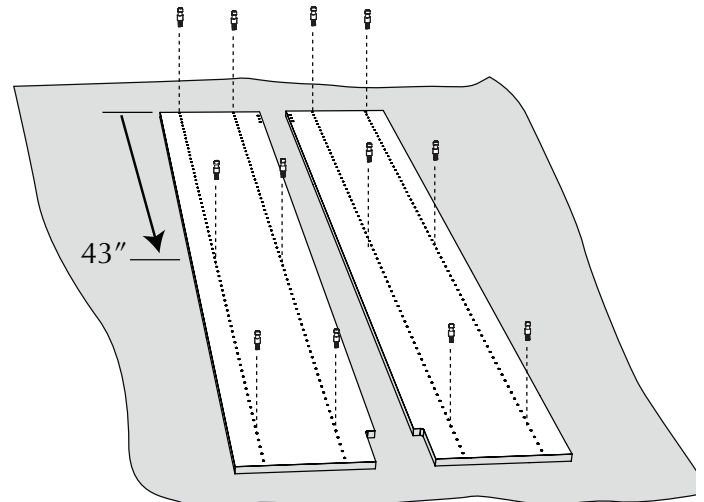

Fig. 1
1. Lay down both tower side panels (partitions) face up on the cardboard or cloth with the notched ends at the bottom facing in. (See Fig. 1.) Use a screwdriver to thread six (6) screw-in studs into each side panel. Two (2) screw-in-studs will go into top holes, two (2) screw-in-studs will go into holes located 43" down from top, and two (2) screw-in-studs will be above the baseboard notch (5th hole from the bottom of the panel).